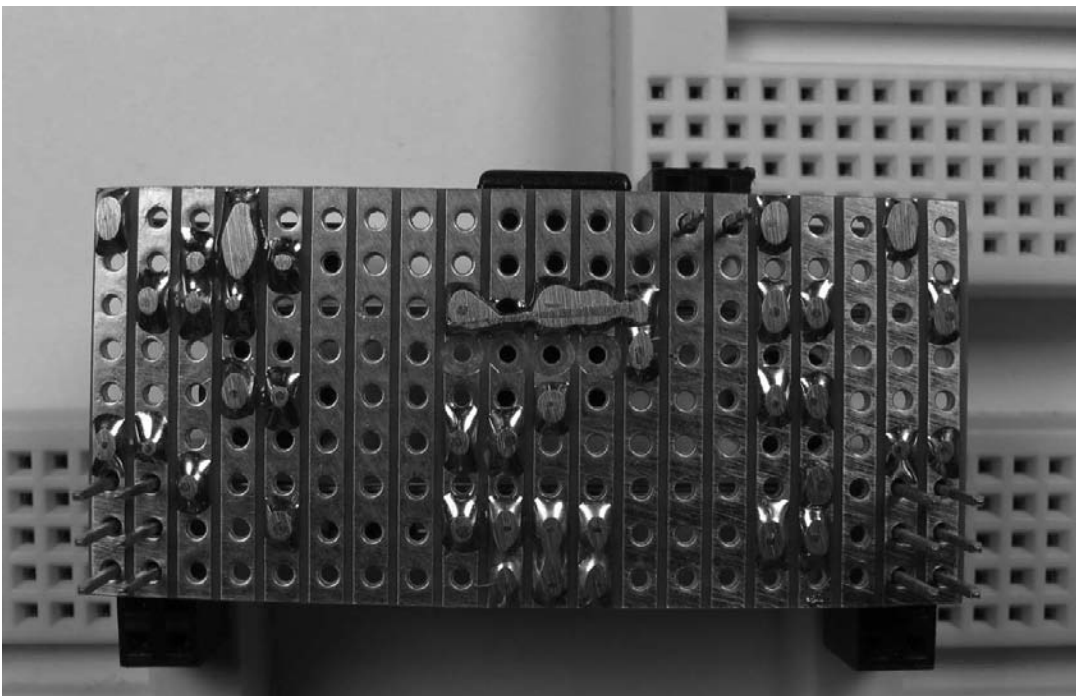

Figure 3-7 Reverse-mounted headers prepared for soldering
17. Reverse-mount headers H1 and H2; invert the board and support it with female headers appropriately spaced on two or three breadboards as shown in Figure 3-7.